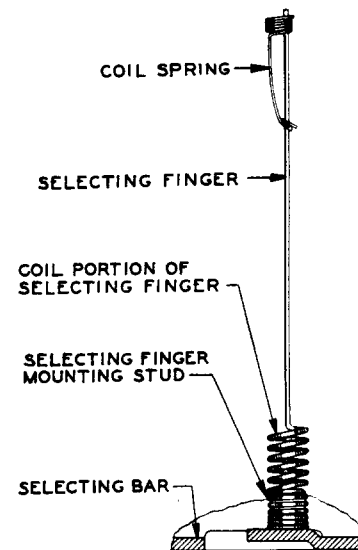

Fig. 8 – Method of Assembling Coil Spring of Selecting Finger
(4) Screw the selecting finger onto the selecting finger mounting stud and turn the finger until the end turn of the coil bottoms firmly against the selecting bar. Loosen the chuck adjusting nut and remove the contact burnisher holder. Make sure that there are five to seven free turns of the coil portion of the selecting finger beyond the free end of the selecting finger mounting stud. If there are less than five or more than seven free turns of the coil, remove the selecting finger and install another finger as covered above.
(5) Determine the length of the adjacent selecting finger by means of the R-8550 steel scale and cut the tip of the new selecting finger off with the 5-inch diagonal pliers so that the new finger is the same length as the adjacent finger. Remove any burrs from the tip of the selecting finger by looping a piece of 320 Aloxite cloth over the finger and drawing it over the tip several times until the burrs are removed.
(6) Thread the loop end of a new coil spring onto the selecting finger, taking care to place the proper side of the loop toward the coil portion of the finger as illustrated in Fig. 8. Force the coil spring over the tip of the selecting finger and push the spring onto the selecting finger, being careful to avoid personal injury due to the sharp tip of the selecting finger. Push the coil spring on the selecting finger so that the tang at the loop end is just inside the coil portion of the selecting finger, and when the coil spring is in position, make sure it does not bind at the loop end.
(7) Remount the selecting bar as covered in 3.06 except that no oil should be placed on the pivot screws.